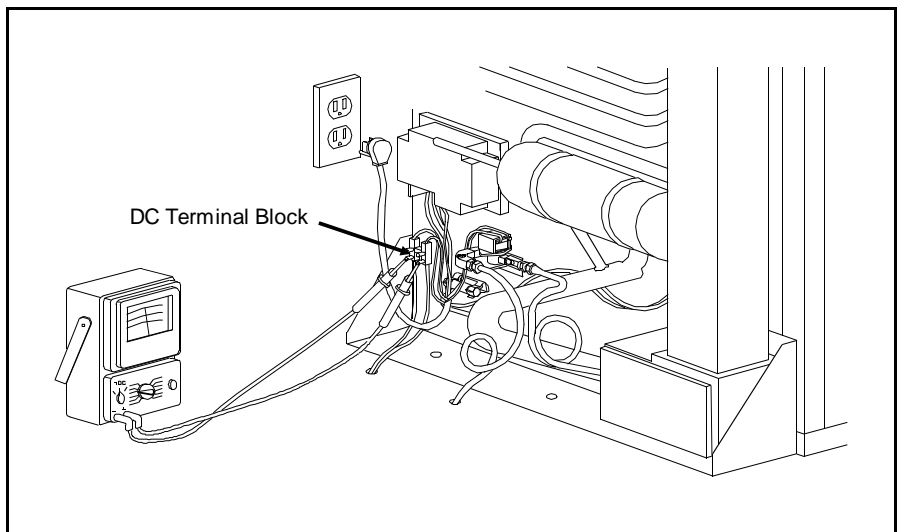

Figure 4.24 12 Volt DC Supply Check
3. Check for 12 volt DC at the DC terminal block as shown in Figure 4.24.